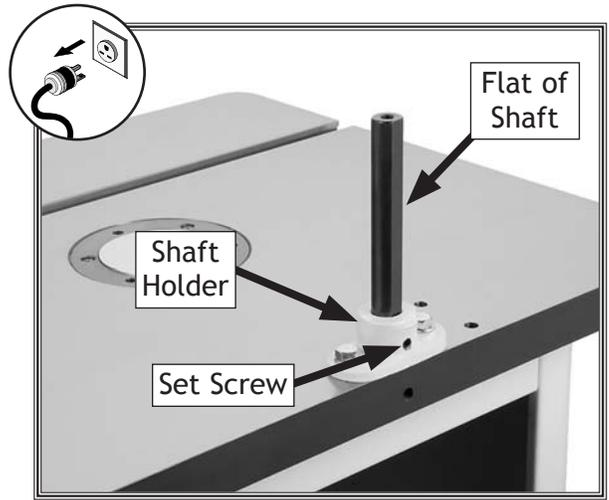

Figure 45. Safety guard shaft and holder installed.
3. Position the safety guard shaft holder on the table so that the set screw faces the rear, as shown in **Figure 45**, then secure it to the table with the two provided $\frac{3}{8}$ "-16 x $\frac{3}{4}$ " hex bolts.
4. Insert the safety guard shaft into the holder so that the flat faces the rear, then tighten the set screw against the flat to secure the shaft in place, as shown in **Figure 45**.